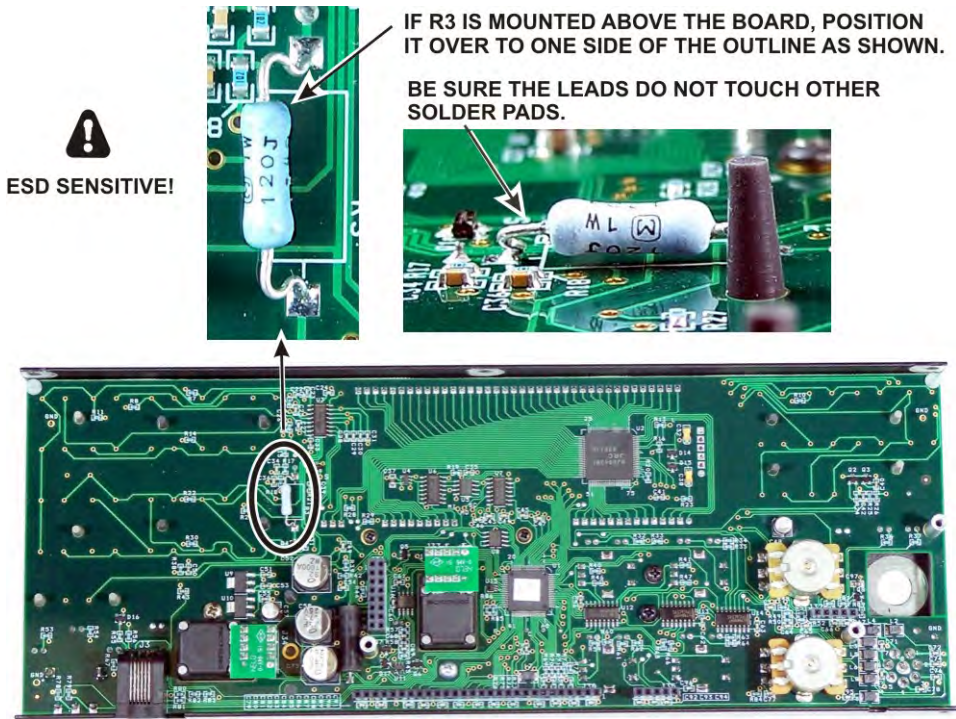
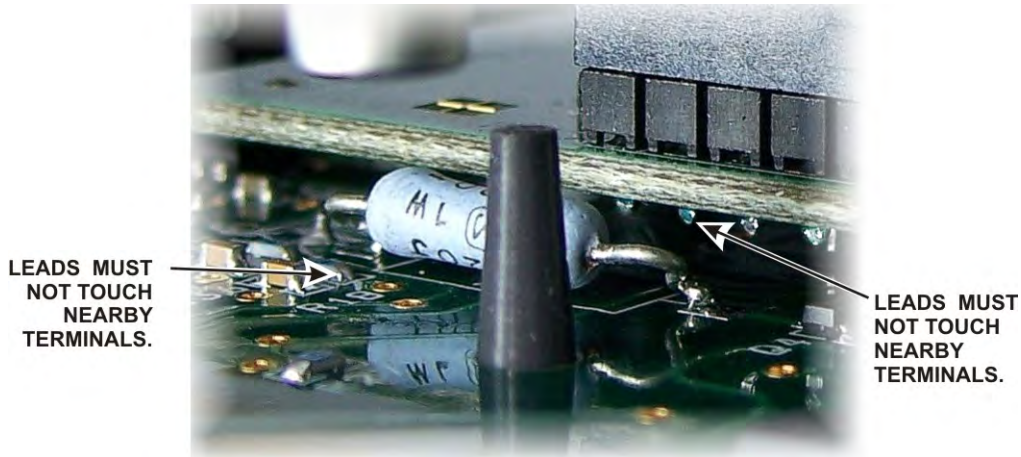

Figure 54. Positioning R3 on the Front Panel Board.
Figure 57. Checking the Position of R3.
□ Locate resistor R3 on the front panel board (mounted on the front panel). If R3 is positioned above the board on its leads as shown in Figure 54, push it over to one side of the outline as shown. Be sure you don't push it so far its leads might touch the solder pads for other components on the board.
□ If you installed the Auxiliary DSP board for the KRX3 and adjusted the position of resistor R3 as shown in Figure 54, look between the DSP boards and the front panel board to verify that the leads are not touching any terminals on either the aux DSP or front panel boards (see Figure 57). If necessary, unplug the DSP board assembly and adjust the position of R3 to ensure the leads are clear of other solder pads before proceeding.